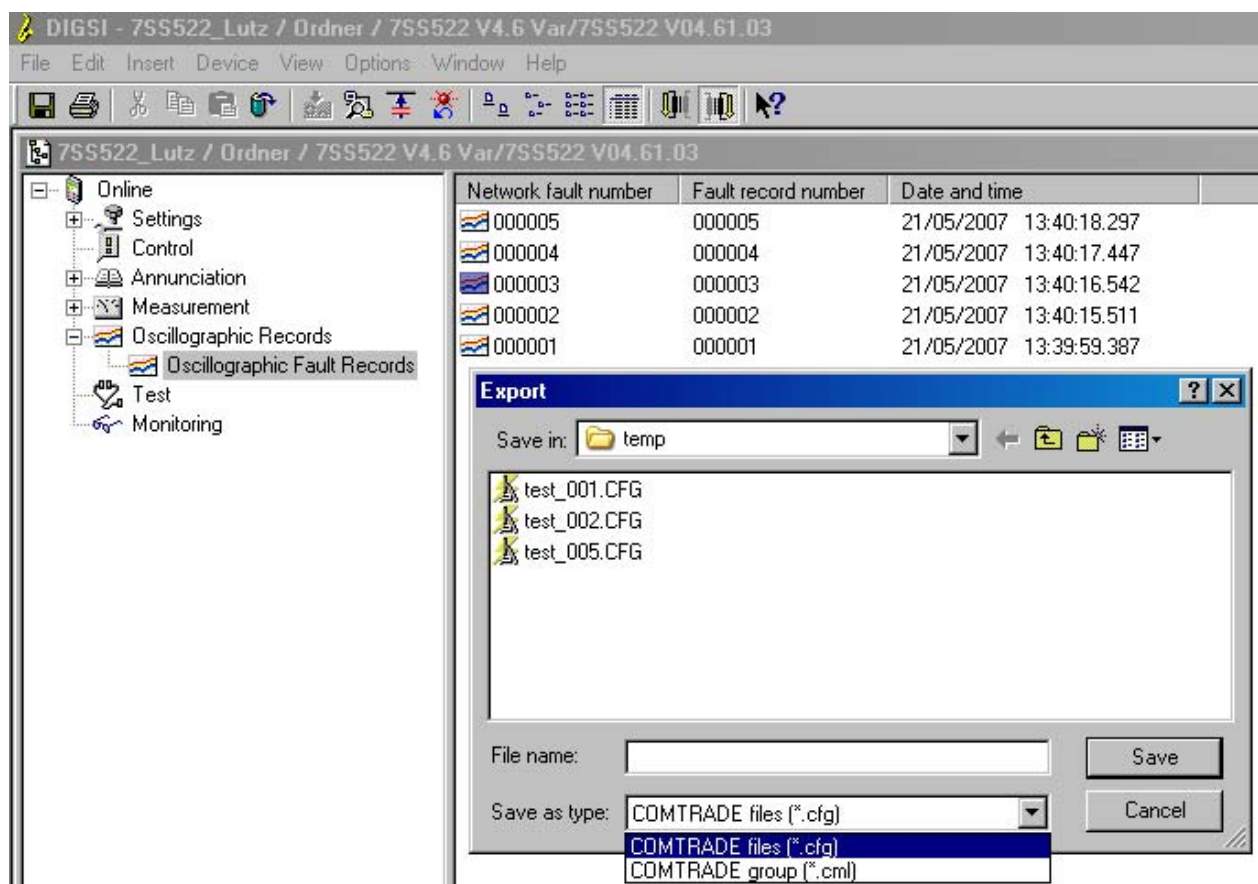

Figure 6-13 Saving the Fault Record
- ❑ Enter path and file name and select for **File Type** “COMTRADE-Group [\*.cml]” (Figure 6-13, page 223). In this way, bay names, assignments and scalings will be maintained.